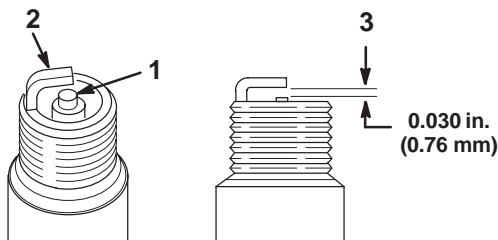

Figure 40
1. Look at the center of both spark plugs (Fig. 40). If you see light brown or gray on the insulator, the engine is operating properly. A black coating on the insulator usually means the air cleaner is dirty.
2. Check the gap between the center and side electrodes (Fig. 40).
3. Bend the side electrode (Fig. 40) if the gap is not correct.